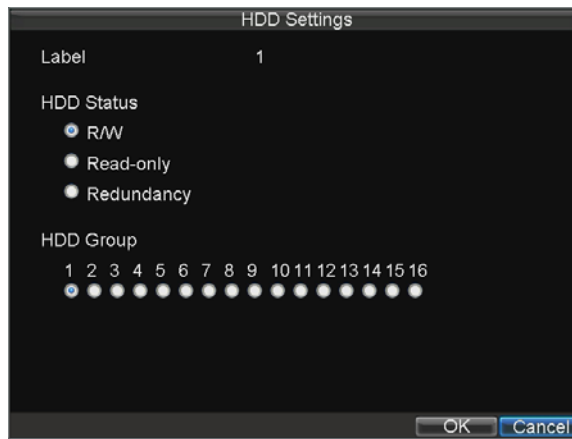

Figure9. HDD Property Settings Menu
4. Click the Set button. This will take you to the HDD Settings menu, shown in Figure 9.